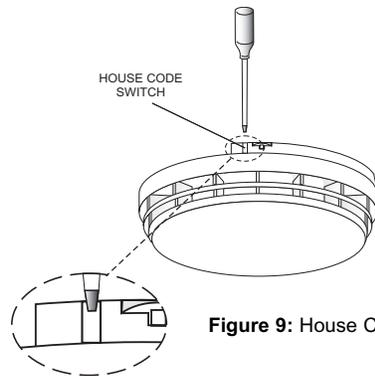

Figure 9: House Code Switch
1. Insert a small screwdriver into the vertical slot in the base to turn on the house code switch (see figure 9) and hold until the blue light comes on. The blue light will then flash rapidly for about 1 second to indicate the unit is now in the house code mode.